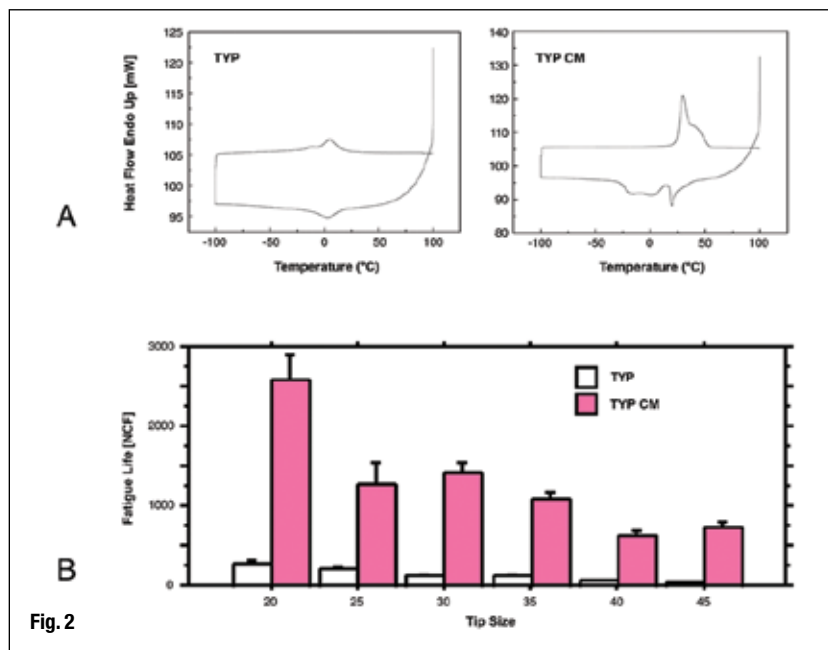

Fig. 2
Recently manufacturers have learned to produce NiTi instruments that are in the martensitic state and even more flexible than previous files. Figure 2 shows how instrument conditions (austenite vs. martensite) are determined in the testing laboratory, using prescribed heating and cooling cycles.5 Heat-treated files with high martensite content typically do not have a silver metallic shade but are colored due to an oxide layer, such as gold or blue.
**Fig. 2** Behavior of controlled-memory nickel-titanium rotaries compared with standard instruments. Shown are data from Typhoon Differential scanning calorimetry, which document the transition between austenite and martensite at about 5 degrees C for standard NiTi and at about 25 degrees C for controlled-memory (CM) alloy (A). At room temperature, this results in a drastically increased fatigue lifespan (B). Image A modified and reprinted with permission from Shen *et al.* J Endod 2011; 37:1566-1571.